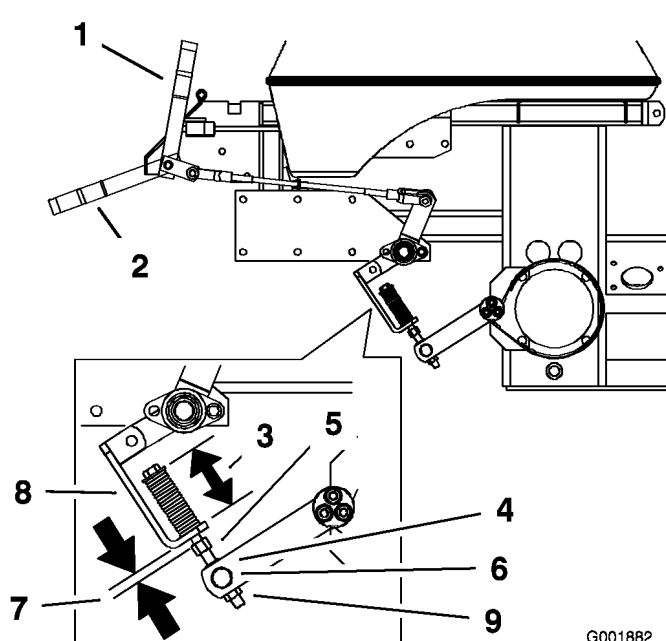

Figure 58
2. Measure the length of the spring. The measurement should be 2-3/4 inch (70 mm) between the washers (Figure 58).
3. If an adjustment is necessary, loosen the jam nut below the spring and tighten the nut directly below the yoke (Figure 58). Turn the nut until the correct measurement is obtained. Tighten the two nuts together and repeat on the opposite side of the unit.
6. Measure the distance between the spring bracket and the adjusting nut under spring bracket. The measurement should be 1/4-5/16 inch (5-8 mm) (Figure 58).
7. If an adjustment is necessary, loosen the jam nut directly above the trunion roller. Turn the lock nut below the trunion roller until the correct measurement is obtained (Figure 58).
8. Tighten the jam nut directly above the trunion roller (Figure 58).